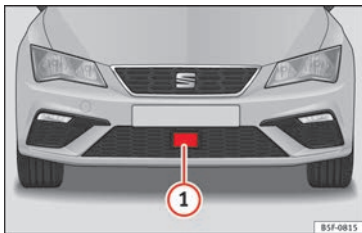

Fig. 199 On the front bumper: radar sensor.
»» Fig. 199 ①. This sensor can detect vehicles in front up to a distance of approximately 120 m.